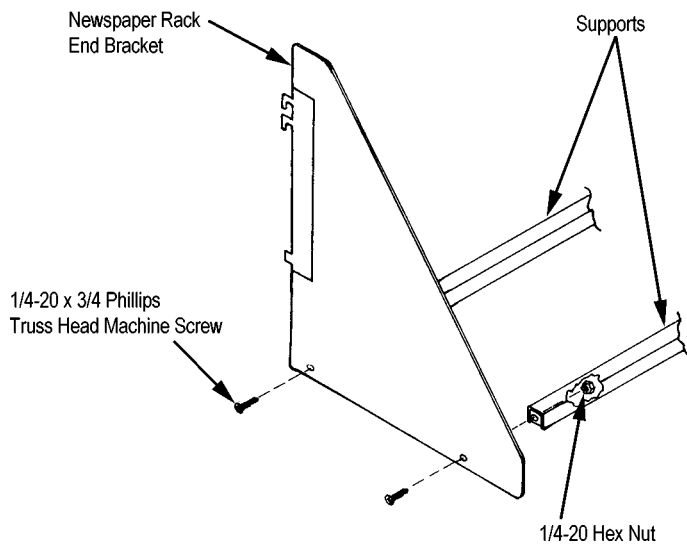

FIGURE 45A
1. Secure support members to newspaper rack end brackets, one at lower rear and one at lower front of end brackets, using 1/4-20 x 3/4 Phillips truss head machine screws and 1/4-20 hex nuts. See Figure 45A.